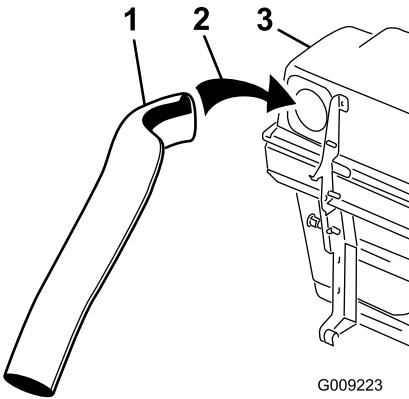

Figure 21
- Install the upper tube into the bagger opening and pull it back out so that the rubber seal is protruding out (Figure 21).